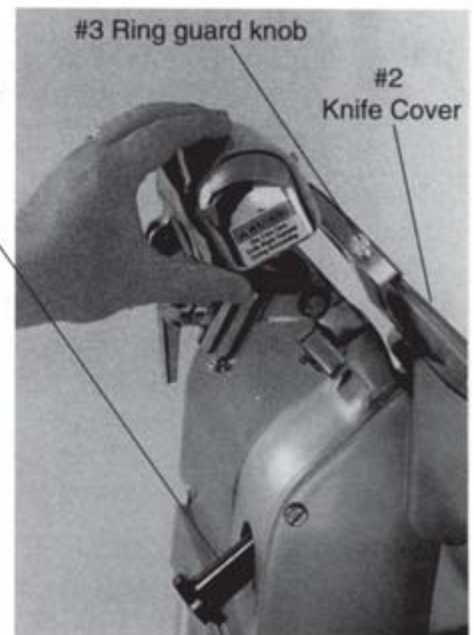

Figure 19-2
5. To expose the knife edge for sharpening, loosen the knife cover release knob (Figure 19-2, #1) and rotate the knife cover (#2) clockwise until it comes to rest on stop pin. Re-tighten the knife cover release knob. Using the knob located on the knife ring guard (#3), carefully lift the hinged portion of the knife ring guard away from the knife.